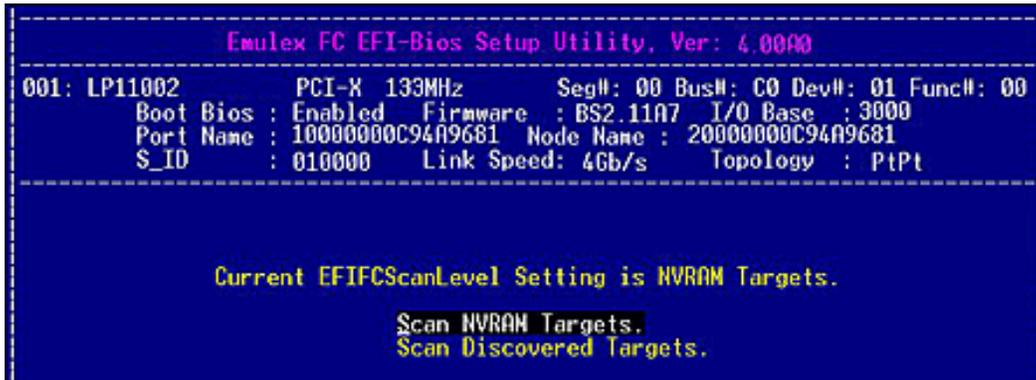

Figure 38: Existing EFIFCScanLevel Variable screen
- If the EFIFCScanLevel variable already exists, the screen in Figure 38 shows the current setting and allows you to select a new setting.